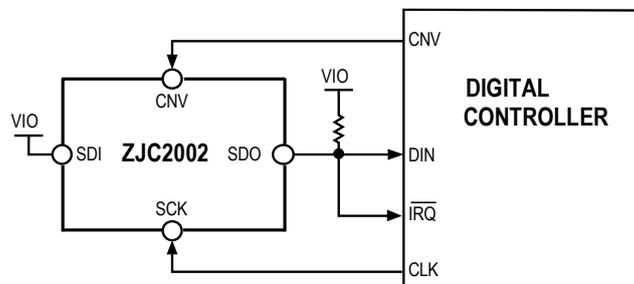
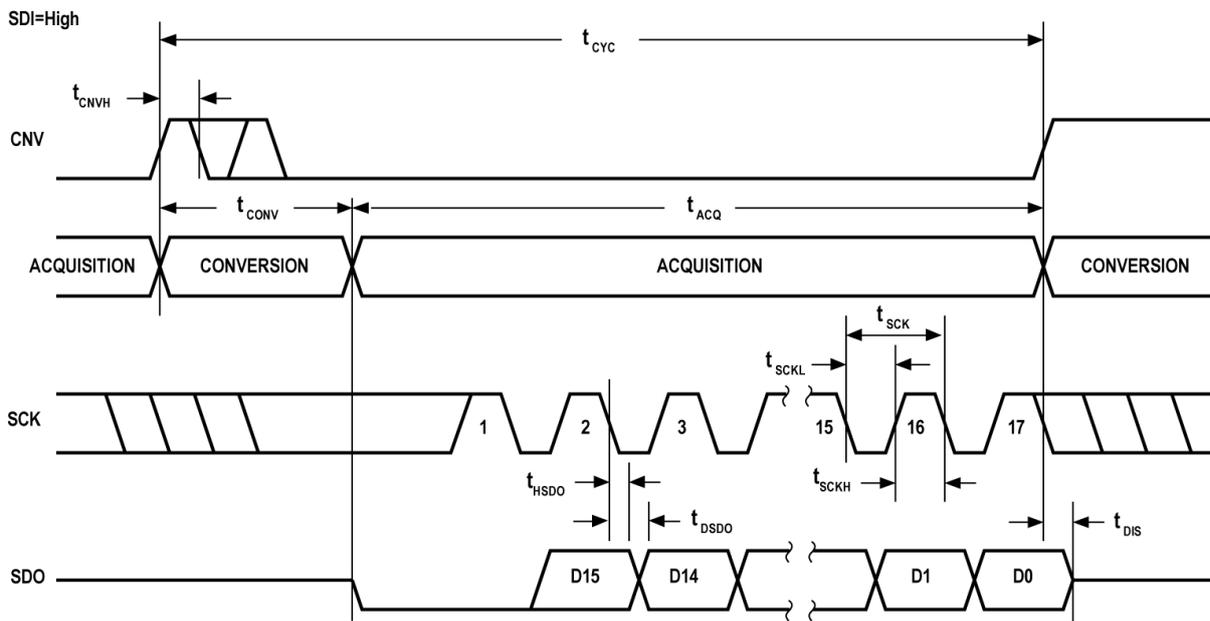
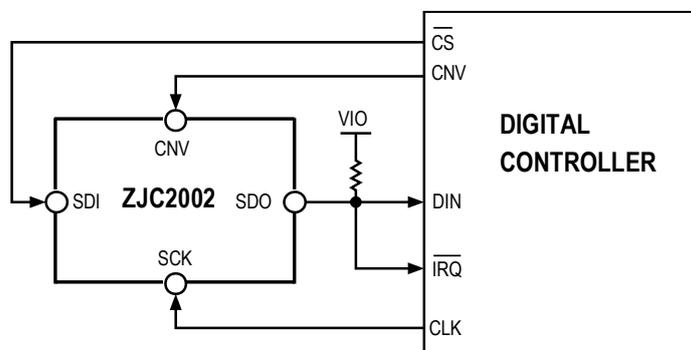
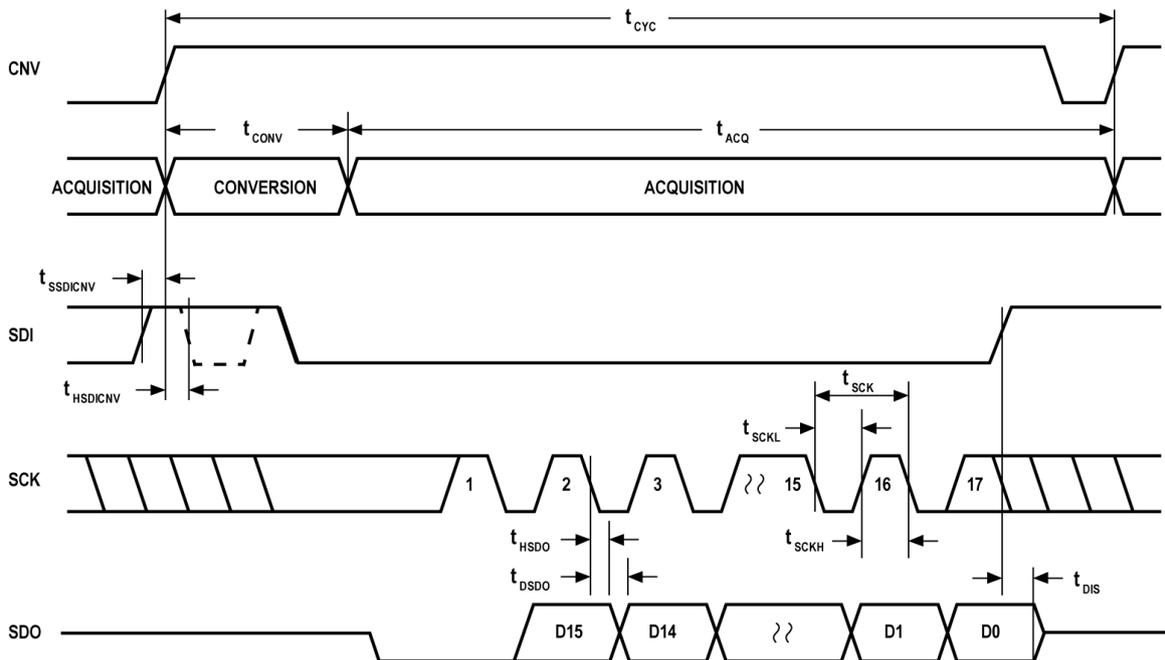

Figure 38. Chip Select Mode (three-wire type with busy indication) Connection Diagram
Figure 39. \overline{CS} Mode (3-Wire with Busy Indication) Serial Interface Timing
Figure 42. \overline{CS} Mode (4-Wire with Busy Indication) Connection Diagram
Figure 43. \overline{CS} Mode (4-wire with Busy Indication) Serial Interface Timing
- In $\overline{\text{CS}}$ mode, CNV or SDI is low at the end of ADC conversion (see Figure 39 and Figure 43).
This mode can be used when a single ZJC2002 is connected to an SPI-compatible digital host with an interrupt input. The connections are shown in Figure 38 and the corresponding timing is shown in Figure 39.
The connection is shown in Figure 42 and the corresponding timing is shown in Figure 43.